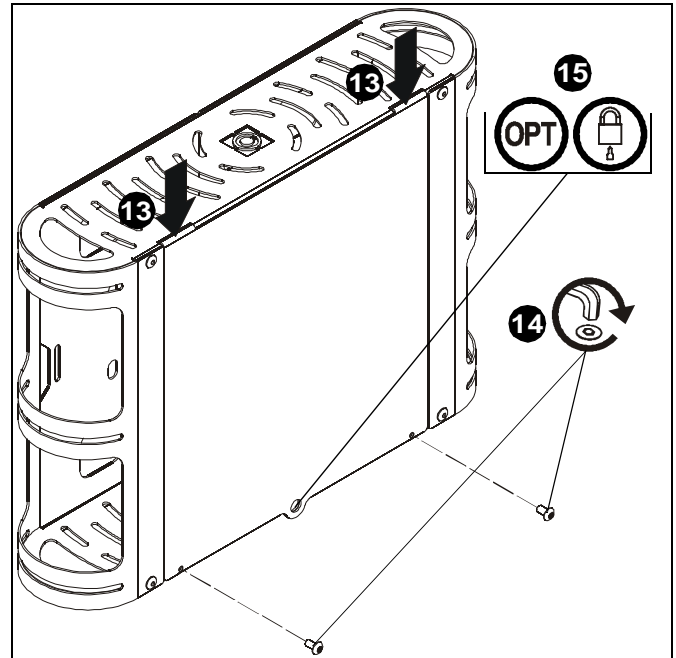

Figure 6
13. Replace side panel back into its original position on CPU holder (A). (See Figure 6)
14. Use security screws (removed in Step 9) to reattach side panel to CPU holder (A). (See Figure 6)
15. (Optional) Use padlock (not provided) to provide further security to CPU holder. (See Figure 6)